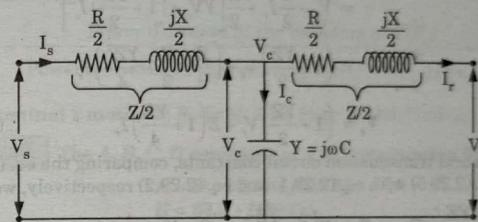
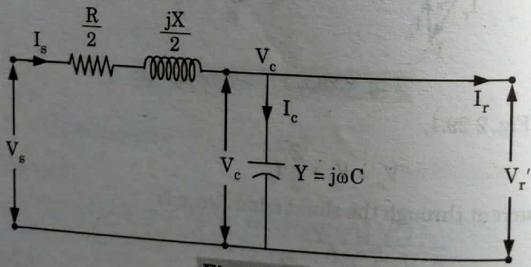

Fig. 2.29.1. T-equivalent circuit of medium transmission line.
Fig. 2.29.3.
1. From Fig. 2.29.1,
1. Under no load condition, the equivalent circuit of Fig. 2.29.1 is shown in Fig. 2.29.3.
3. From Fig. 2.29.3, the voltage across the capacitor by using voltage divider rule is